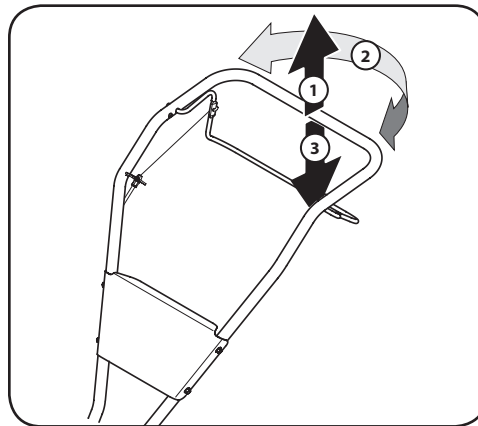

Figure 3-5
- To begin a turn, lift the handlebars until the tines are out of the ground and the engine and tines are balanced over the wheels. See Figure 3-5.
- With the tiller balanced, push sideways on the handlebar to steer in the direction of the turn. See Figure 3-5.
- After turning, slowly lower the tines into the soil to resume tilling. See Figure 3-5.